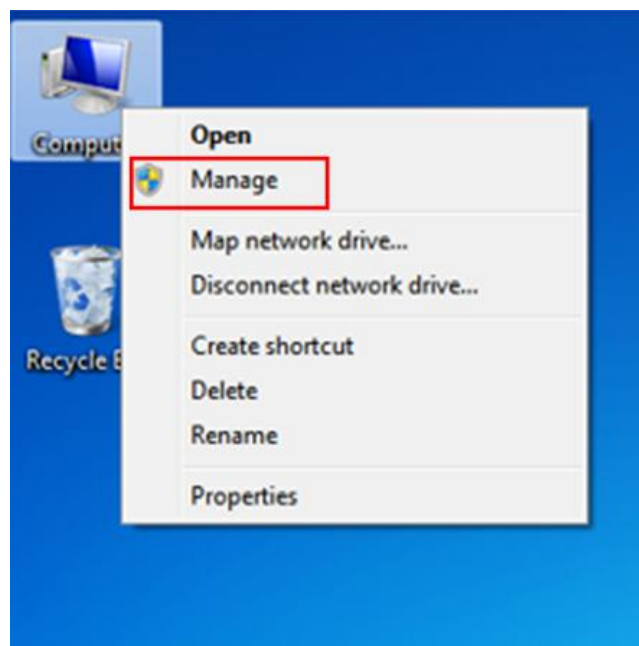

Fig. 3.14
2)Right click the shortcut icon 'Computer' on the desktop, and select 'Manage' (Fig. 3.14).